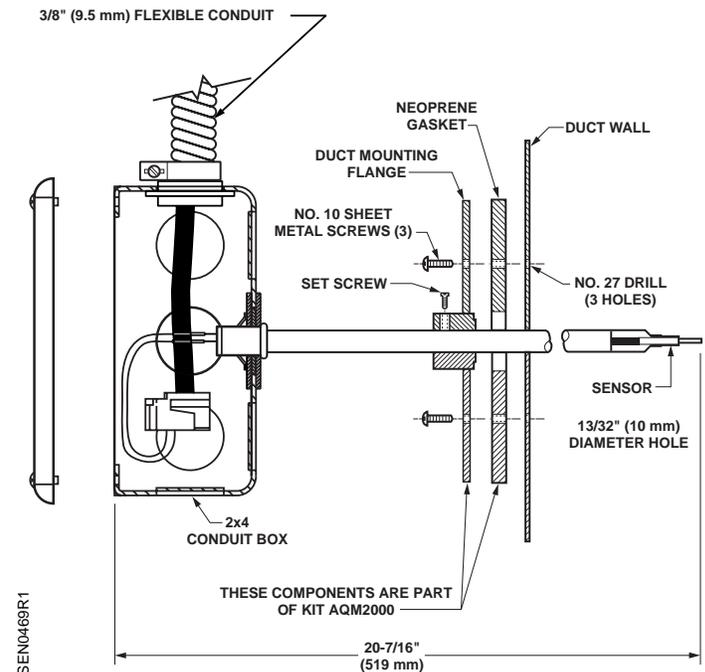

Figure 1. Duct Point Sensor Installation.
1. Drill a 13/32-inch diameter hole into the duct at the desired location of the sensor. See Figure 1.